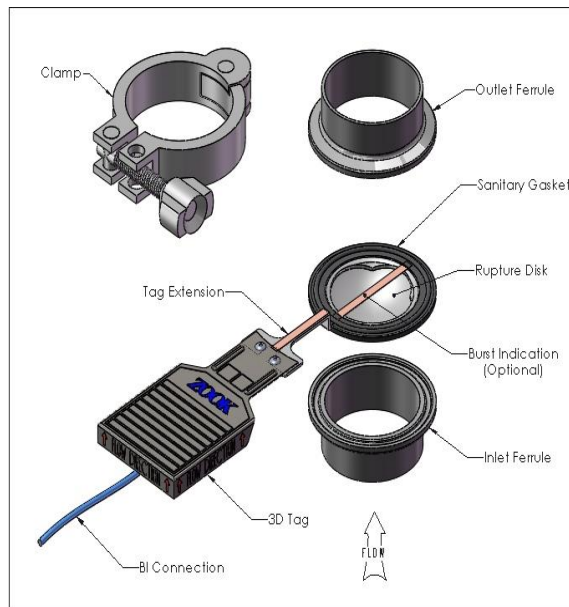

Figure 1: Sanitary Clamp Style Installation.
- d) **FOR SANITARY CLAMP STYLE INSTALLATION (Figure 1):**